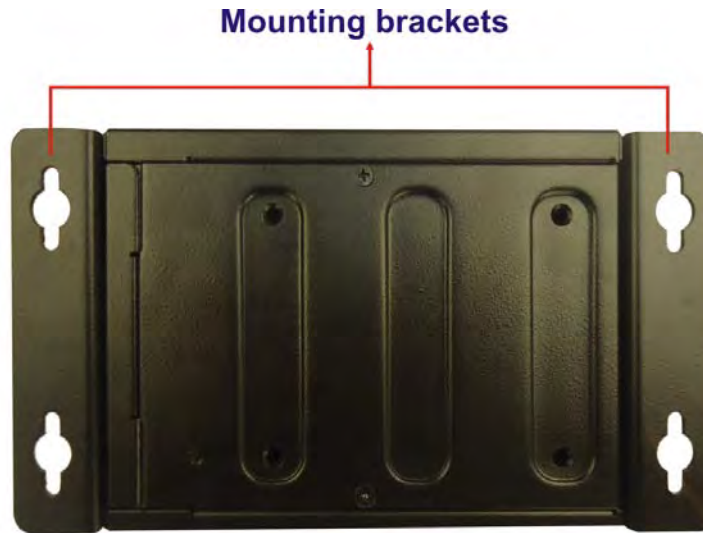

Figure 3-8: Mounting Bracket
Step 4: Secure the brackets to the system by inserting two retention screws into each bracket as illustrated in **Figure 3-8**.